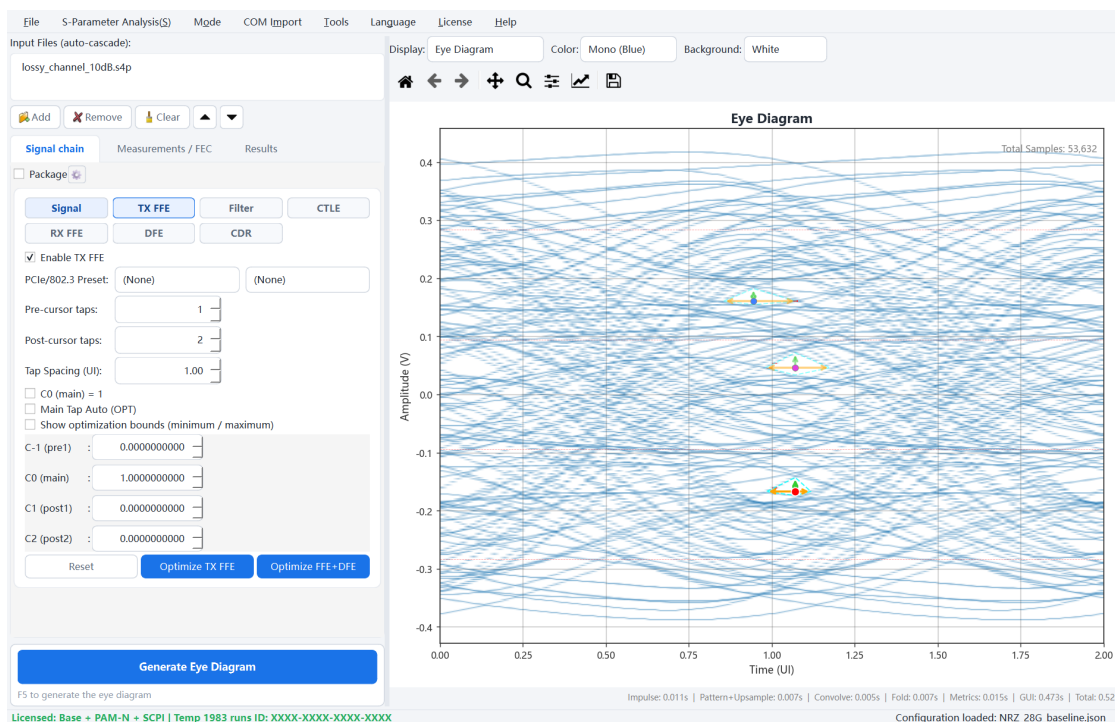

Fig. 3-2 TX FFE panel: enable switch and Optimize
Step 4 Switch to the **TX FFE** tab (Fig. 3-2), tick enable, then click "**Optimize TX FFE**". The software searches for the best transmitter pre-emphasis taps automatically.